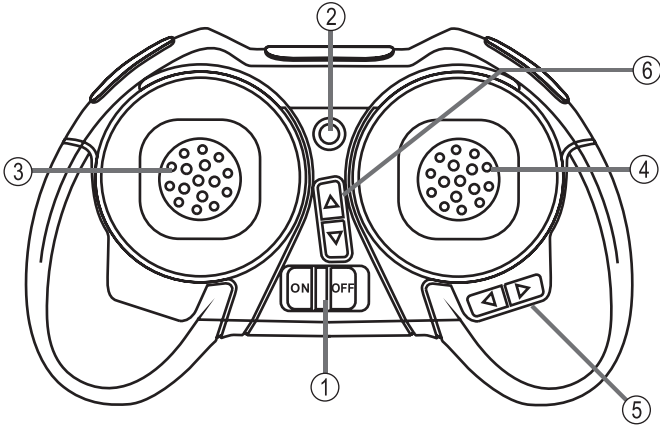

Figure 3
The battery condition is continually inspected while the transmitter is in operation. If the voltage level of the batteries drops below a certain value, the transmitter will signal this with an intermittent warning sound and permanent flashing of the LED at the transmitter (figure 3, item 2). In this case, stop flying at once and replace the batteries of the transmitter.
Push the throttle lever (figure 3, item 3) forward to increase the motor speed and lift up the quadcopter. Pulling the throttle lever back causes the quadcopter to drop. If you leave the throttle stick in the middle area, the quadcopter will roughly maintain its height.
- Put the control stick for the motor control to the bottom position for this (1).
- Switch on the quadcopter (2). The front LEDs in the model start to flash quickly.
- Switch on the remote control transmitter by pushing the on/off switch (3). The transmitter confirms this with a double signal sound. The control LED at the transmitter (fig. 3, item 2) will flash.
- Push the left control lever (4) forward until a control sound sounds.
- Pull the left control lever (5) backwards until a control sound sounds. The control LED at the transmitter and the LEDs at the quadcopter are now permanently lit.